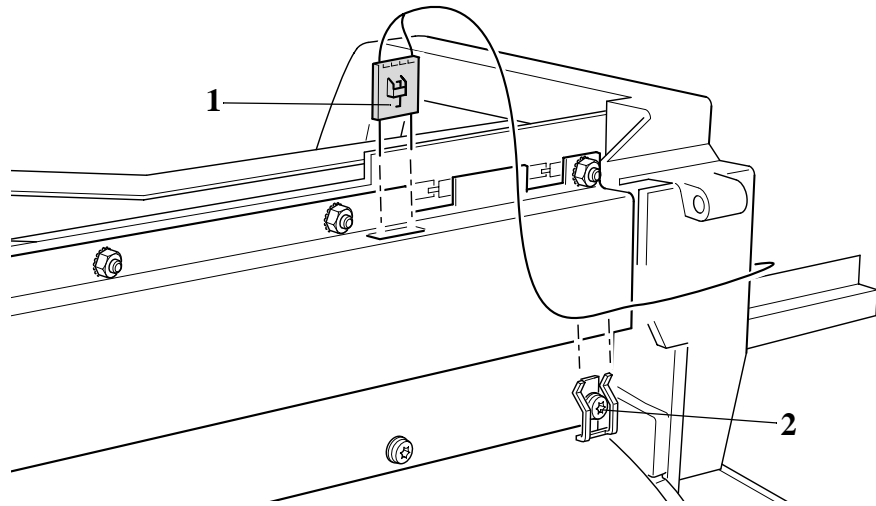

Figure 72: Leak Detector Cable
5. Remove the screw and clip (item 2) from the back of the Printer and disconnect the Ink Leak Detector Cable Connector (item 1) as shown in Figure 72. The Ink Leak Detector Cable can now be removed completely